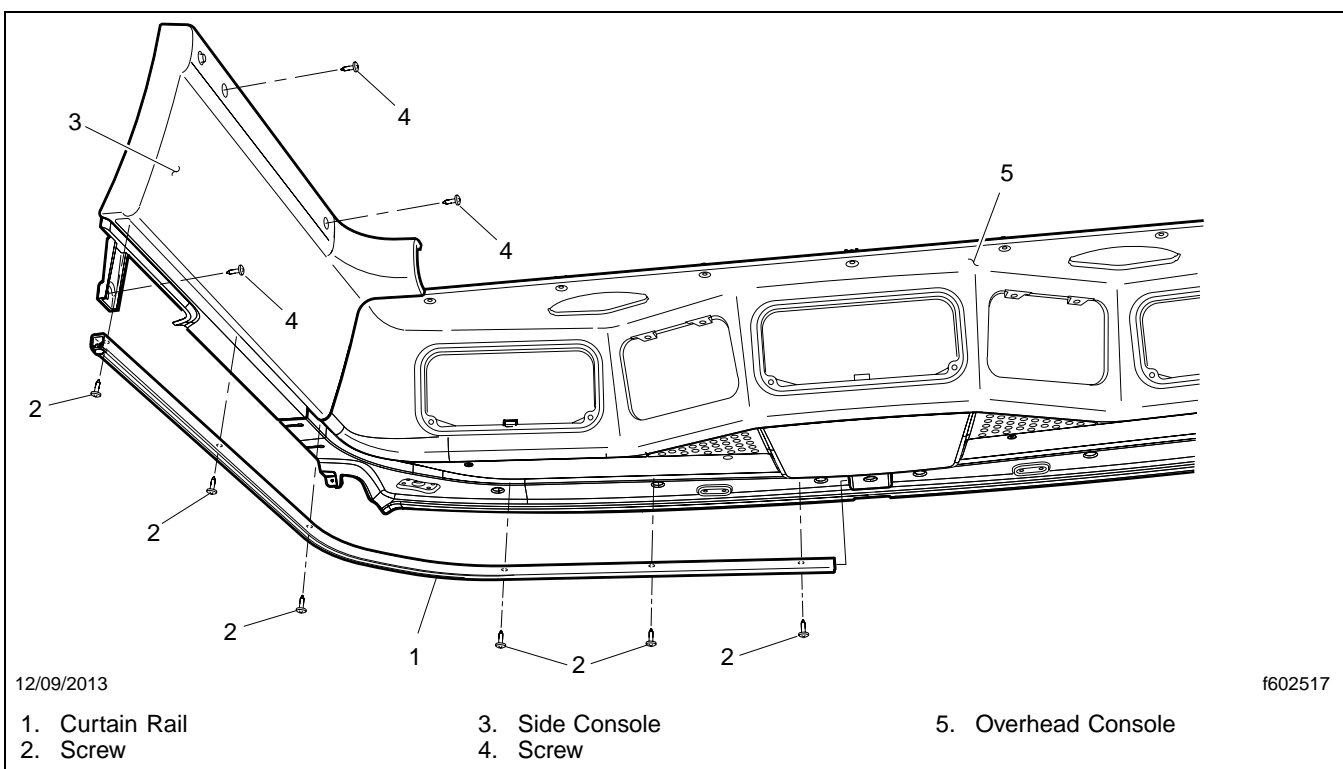

Fig. 4, Cab Privacy Curtains and Side Consoles
4. Remove the screws that secure the cab privacy curtain rails. Remove the rails and curtains. See **Fig. 4**.
34. Connect the speakers and install the side consoles. See **Fig. 4**, on page 7.